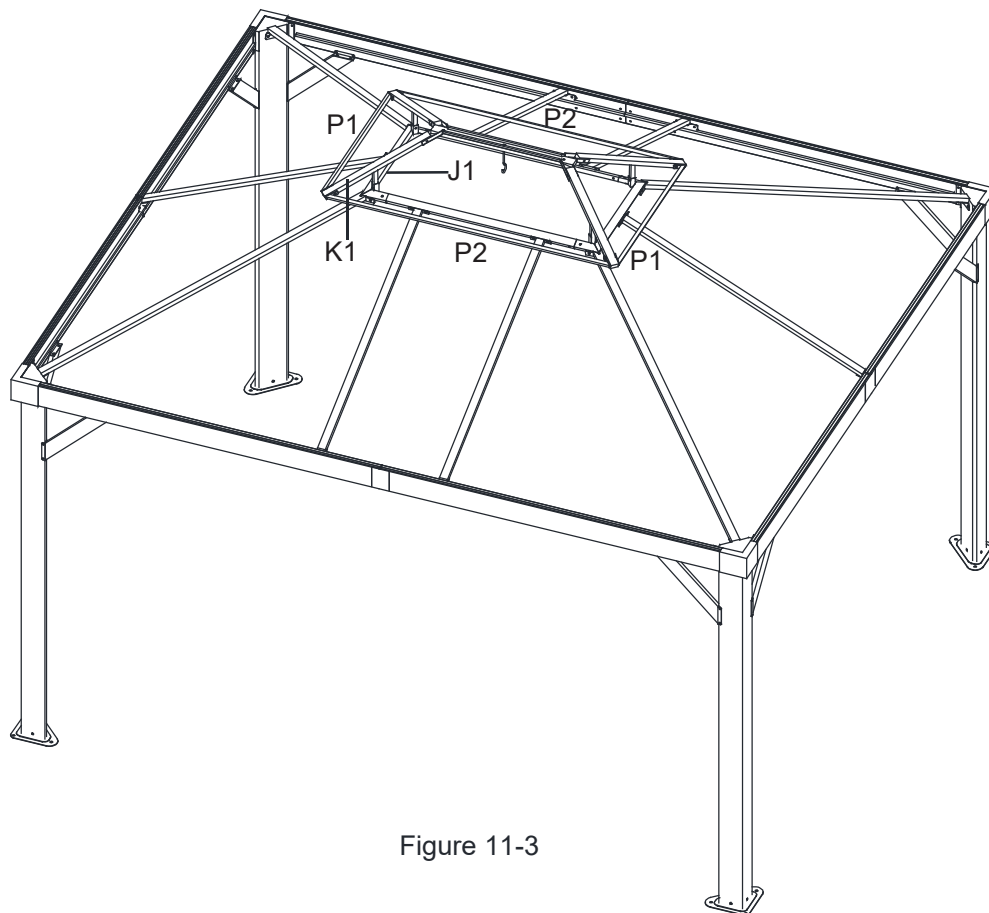

Figure 11-3
- 11.2: Attach the sides of the Roof Vent Frame by connecting the Short Side (P1) and Long Side (P2) to the Roof Vent Corner Support (K1) using Bolts (AA) and Steel washer (AA-1). See Figure 11-3.
- 11.3: Repeat for all sides. Tighten all Bolts. See Figure 11-3.